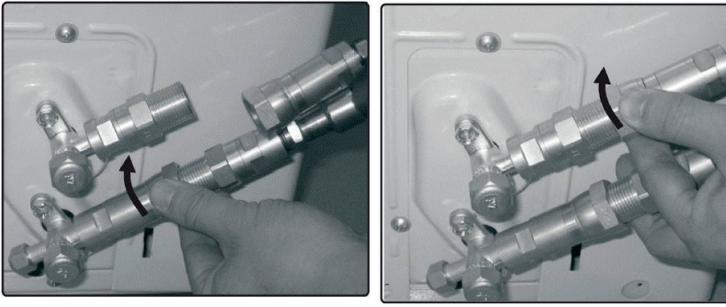

Fig. 6.3
- Align the refrigerant pipes correctly so that they line up with the valves and are not stressed. Place the screw connector on the refrigerant line just on to the thread on the outdoor unit and tighten the first few threads by hand, Fig.6.3.